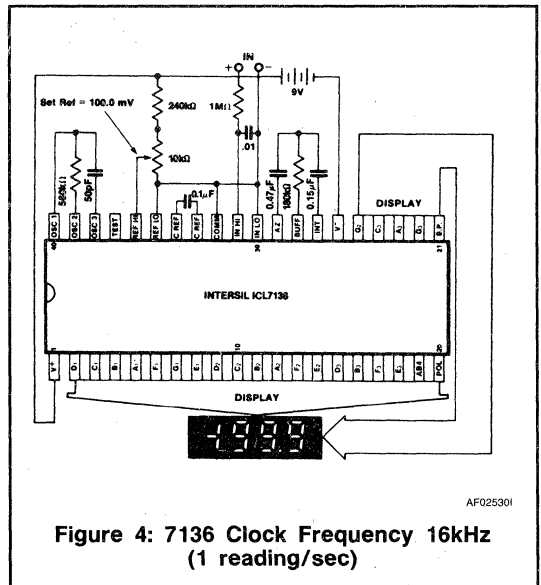

Figure 4: 7136 Clock Frequency 16kHz (1 reading/sec)
6. 48kHz oscillator, Figure 4, increases current by 20μA (typ).